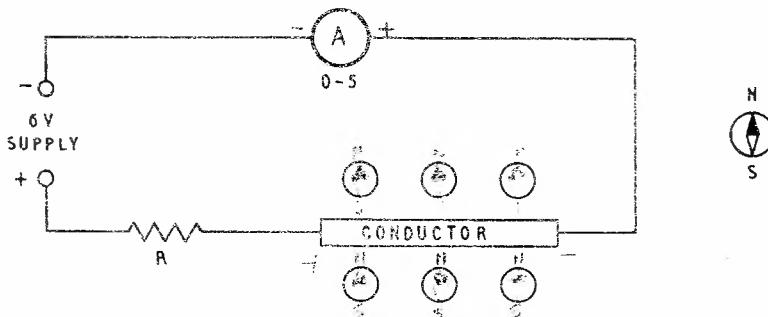

FIG. 1.
STEP 1. Connect the circuit as shown in Fig. 1.
Record the compass deflection on Fig. 1.